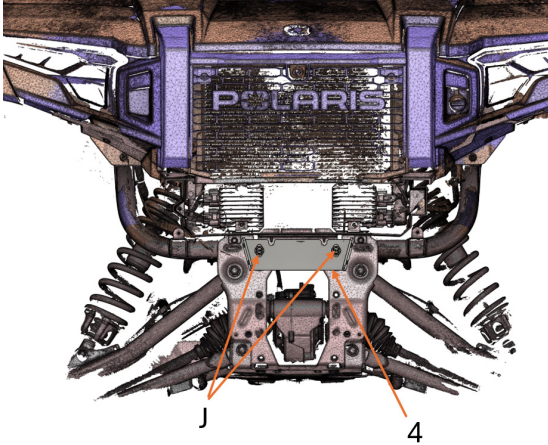

FIG 15 - Loosley Mount the Middle Mount to the frame using a 15mm Socket
The first step in the installation procedure is to mount the middle mount (4) to the frame using 2 x M10x30mm flange head bolts (J). Do not fully tighten (FIG 15).